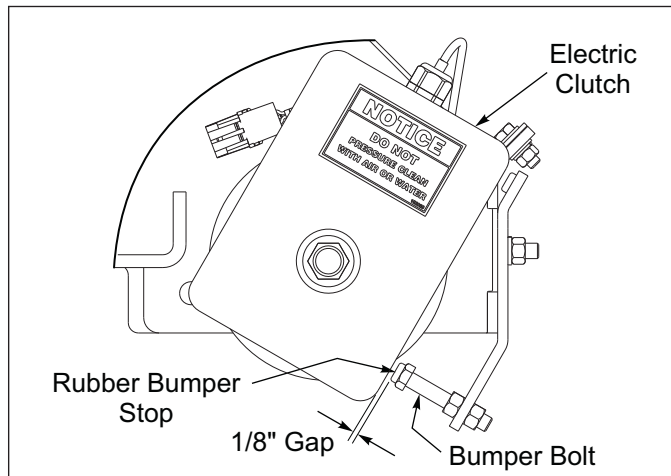

Figure 2-27: Clutch Clearance
1. Verify that the Electric Clutch has 1/8" clearance between the Clutch Housing and Rubber Bumper Stop. Improper clearance may prevent the Clutch from engaging or disengaging. **See Figure 2-27.**